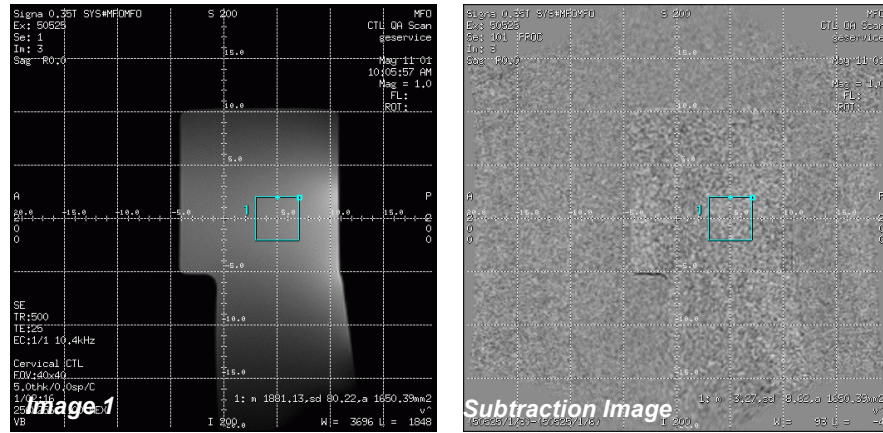

Figure 19: Cervical CTL images.
3. Refer to channel images shown in *Figures 19* through *21*.
SNR is calculated for individual modes at the slice location. For the signal measurement, choose a ROI following the examples shown in *Figures 19, 20 and 21*.